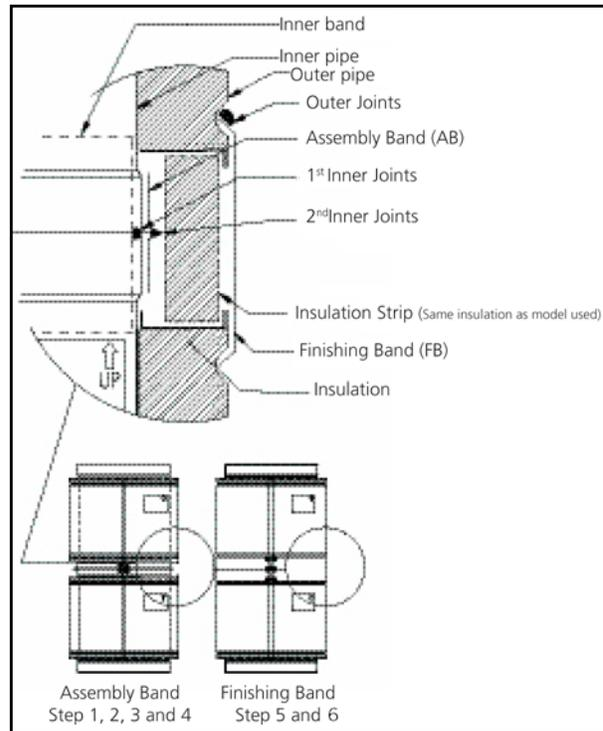
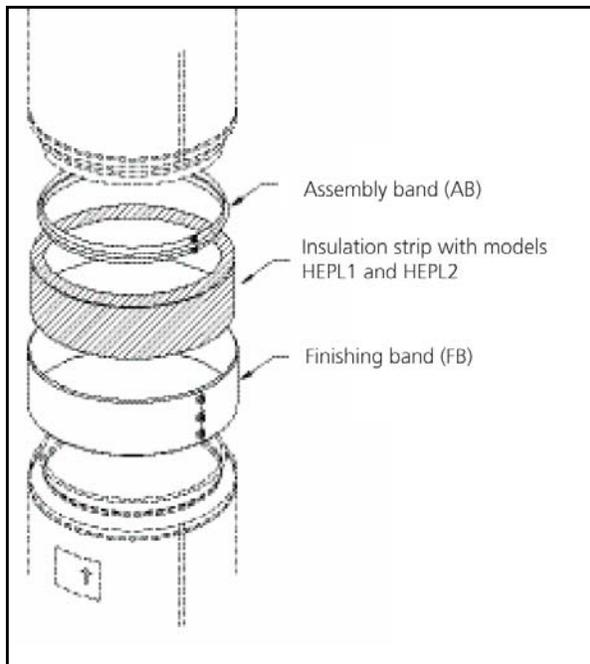

Figure A-3 - Assembled Joint
Figure A-2 - Joint Components
3. The AB (Fig. A-2 and A-3 is installed and clamped in place with the 4 screws (supplied).
5. The Finishing Band (FB) is then installed by slipping the edges of the band into the outer pipe edges and clamping it with the 3 screws (supplied).
6. Where the chimney passes outdoors, an exterior sealant (ES) is applied at the joint of the FB and the outer wall of the pipe for weather protection (see Fig. A-3, Table A-7).